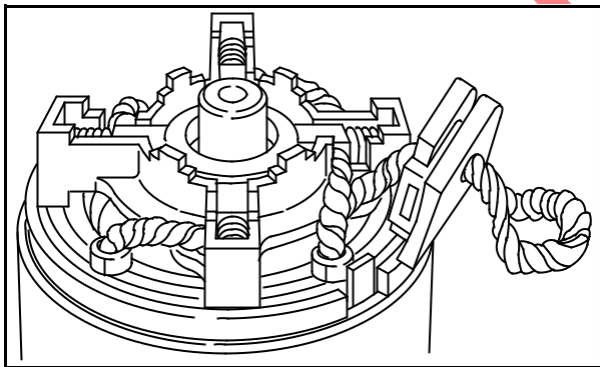

Fig. 45
4. Insert brushes into brush holder, **Fig. 45**.